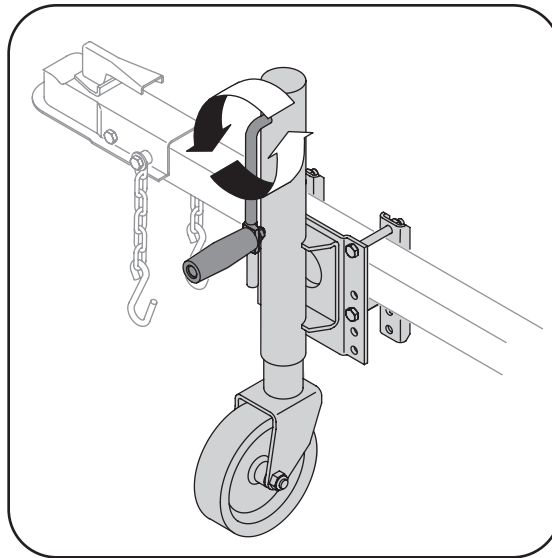

Figure 4-4
2. Raise the adjustable jack stand by turning the crank clockwise. See Figure 4-4.